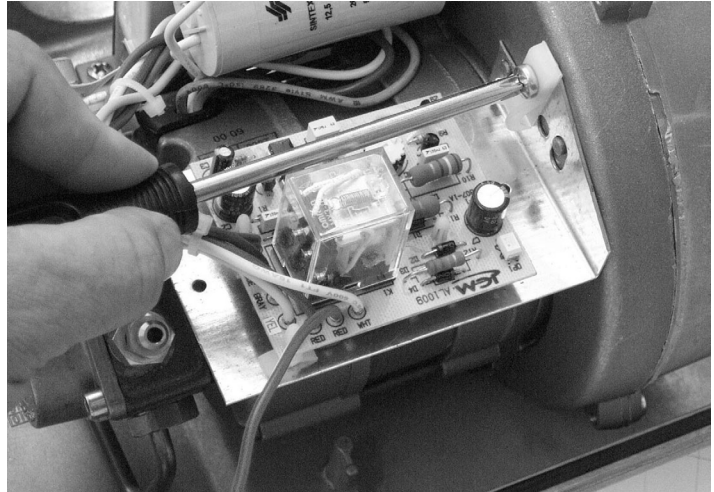

Figure 4
13. Mount the AL1009 circuit board onto the mounting bracket until the snap mounts click into the holes. Align the mounting bracket with the chassis and secure using the wire strain relief clamp and mounting screw, **Figure 4**.